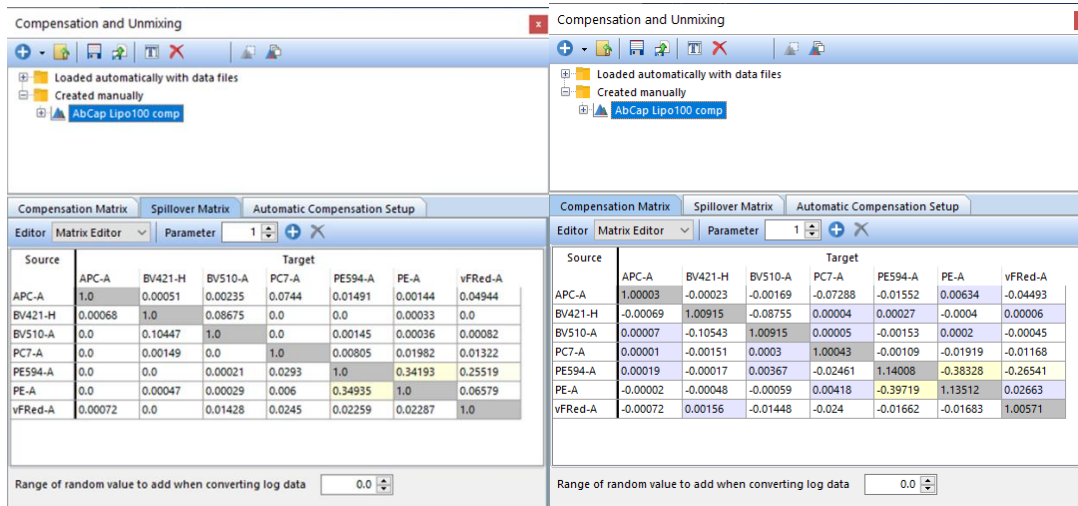

Figure 5. The calculated Spillover and Compensation matrices.
16. Click Calculate Matrices (Step 6) using the median fluorescence intensity values. The Spillover and Compensation matrices will be calculate (Figure 5).